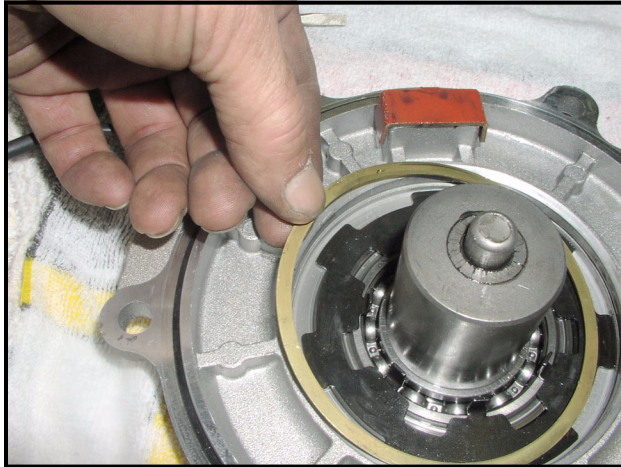

Figure 9-10 Armature Plate Shim
4. Remove armature plate shim (**Figure 9-10, Page 9-5**).
3. Install the armature plate shim (Figure 9-10, Page 9-5).